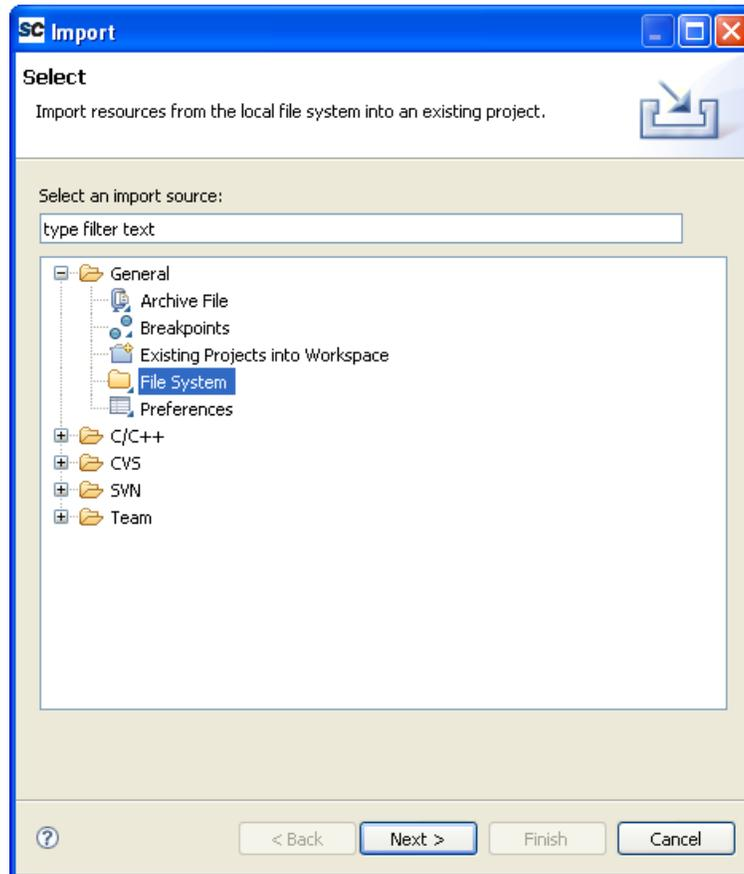

Figure 3-3 · Selecting File System as the Entity to Import
- From the **File** menu, choose **Import**. The Import box appears (Figure 3-3).